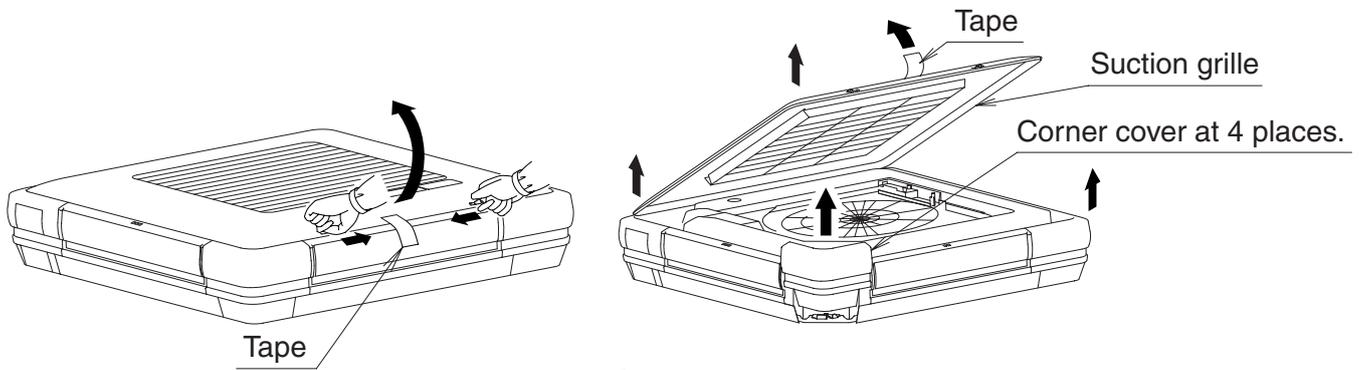

Fig. 8
**(3) Remove the parts of the indoor unit.**
**Remove the suction grille. (Refer to Fig. 8)**